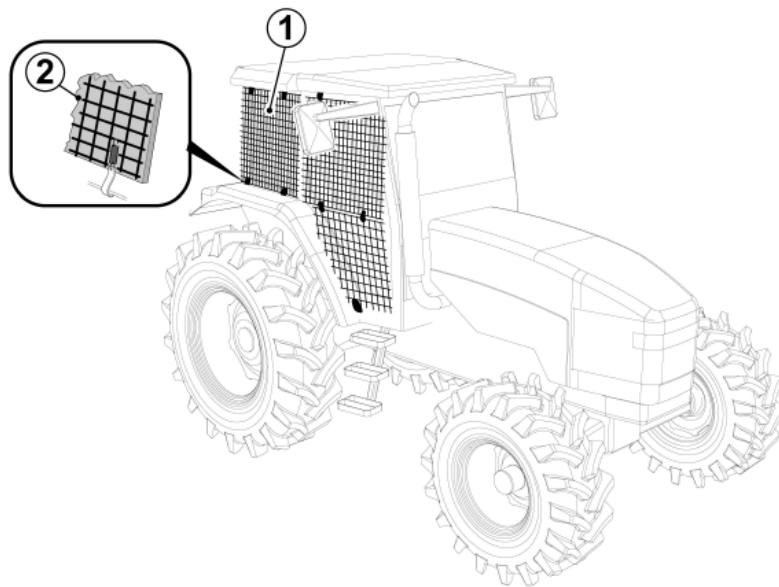

FIG.9
- In order to protect the operator from possible flying debris, stones or other materials, it is recommended to fit two protection grills (1) to the operator's cab (working side), so that the debris thrown by the end tool cannot reach the glass of the cab and break it, causing injuries to the operator (FIG.9).
- It is recommended to fit 5 mm sheets of polycarbonate (2) under the protection grills (1). They will prevent small stones and fragments from hitting the glass of the cab (FIG.9).